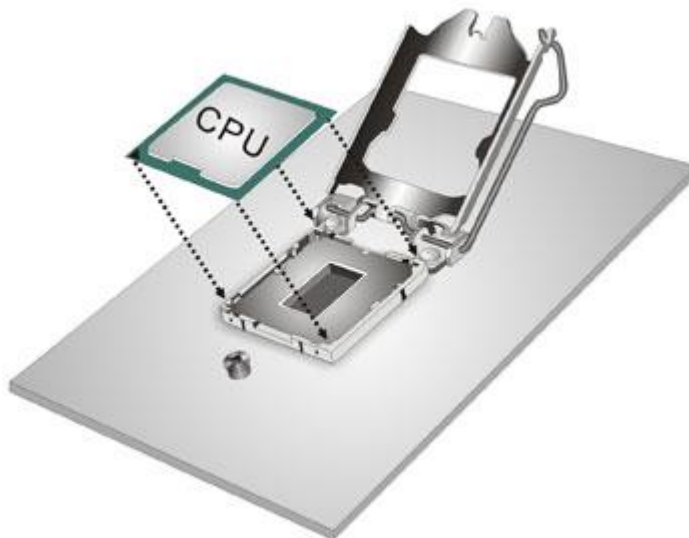

Figure 4-5: Insert The Socket LGA1700 CPU
Step 7: Insert the CPU. Gently insert the CPU into the socket. If the CPU pins are properly aligned, the CPU should slide into the CPU socket smoothly. See **Figure 4-5.**